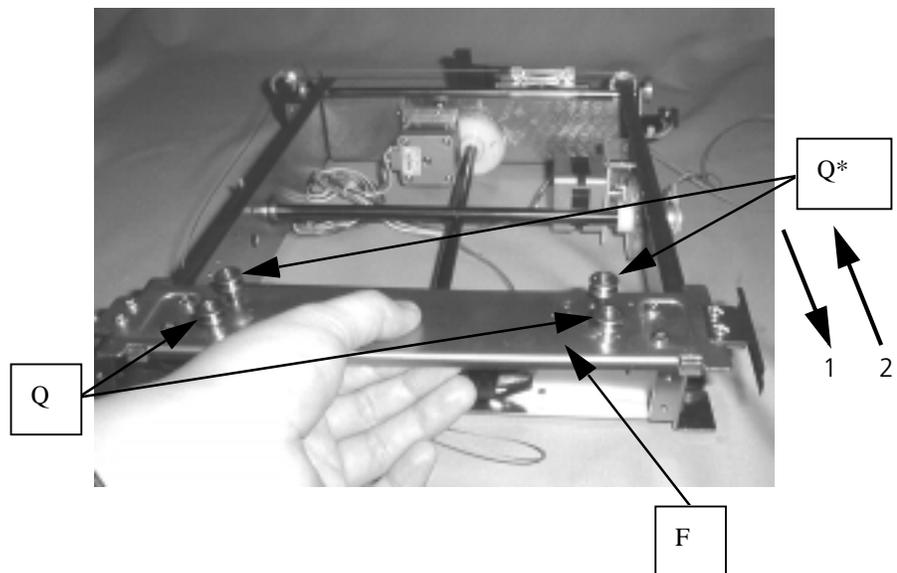

FIGURE 14-5
- Draw out Y-carriage (F) in the arrow 1 direction as shown in Fig.14-5.
- Set new Y-carriage (F) to carriage (R).
11. Loosen nut (U) slightly, and adjust the Y-carriage by turning the eccentric pin (S), to which V-bearing (Q) is mounted, so that the Y-carriage functions smoothly without any play to guide rails (T).
12. Tighten nut (U), and make sure that the Y-carriage (F) functions without any play.
13. Remove carriage (R) from Y-carriage (F), and insert it in the arrow 2 direction with V-bearing (Q\*) facing this side as shown in Fig.14-5.